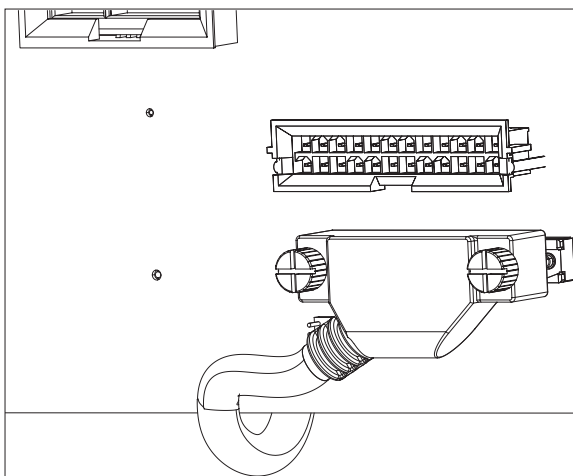

Figure 25. Removing the display tablet cable from the system board
9. Disconnect the display tablet cable from the system board by loosening the two thumbscrews (see Figure 25).